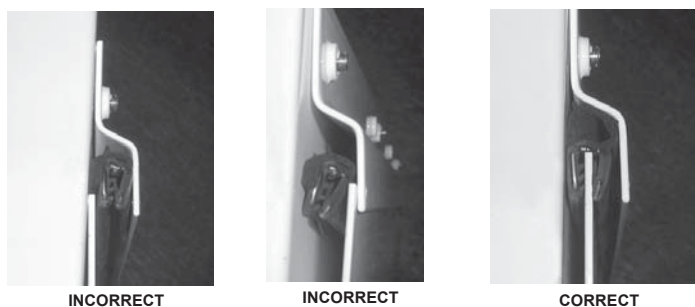

Figure 2-2c
See Figure 2-2c for examples of correct and incorrect placement of the mounting bracket.
**NOTE:** The "lip" on the edge of the wall bracket has been removed in Figure 2-2c to allow clearer visibility of rubber strip placement for this example only.